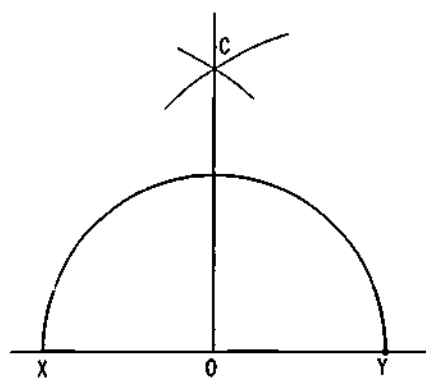

Figure 5-15. Erecting a Perpendicular
**Erect a perpendicular** Using point O and a convenient radius, locate X and Y (Figure 5-15). Using a radius greater than XO, and centres at X and Y, describe arcs which intersect to locate C. Join CO.